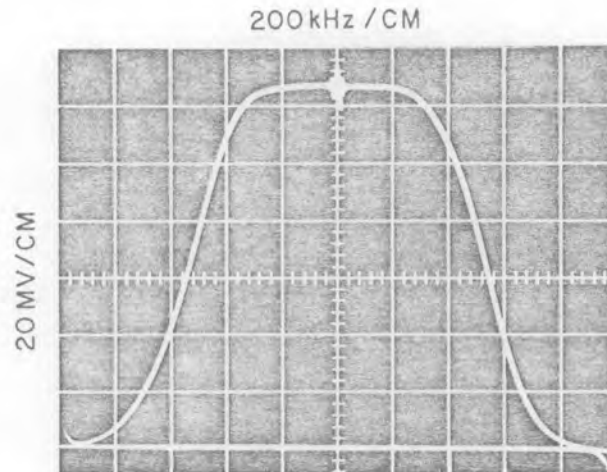

Figure 4-16. Typical 1 MHz IF Response Curve
- (5) Adjust A4A4C7 for a peak at 21.4 MHz.
- (6) Remove the short from A4A4L2.
- (7) Short out A4A4L3 and adjust A4A4C10 for a null at 21.4 MHz and then remove the short.
- (8) Short out A4A4L4 and peak A4A4C13 at 21.4 MHz. Remove the short.
- (9) Short out A4A4L5 and null A4A4C16 at 21.4 MHz. Remove the short.
- (10) Adjust A4A4C20 for a peak at 21.4 MHz.
- (11) Remove the high-Z detector from A4E1.
- (12) Replace the module in the receptacle.
- (13) Connect the high-Z detector to pin 2.
- (14) Carefully adjust A4A4C7 for an overall 1 MHz bandwidth at the 3 dB points, centered about the 21.4 MHz marker.
- (15) Figure 4-16 illustrates a typical 1 MHz IF response.